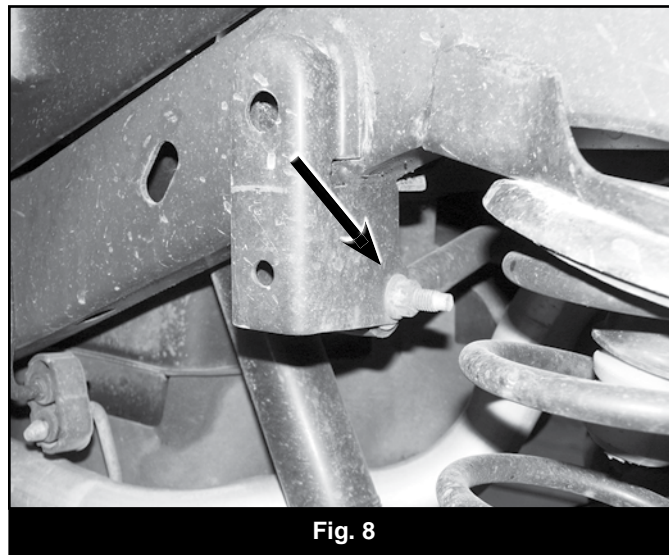

Fig. 8
57. Disconnect the rear track bar from the passenger's side frame mount (Fig. 8). Save hardware.